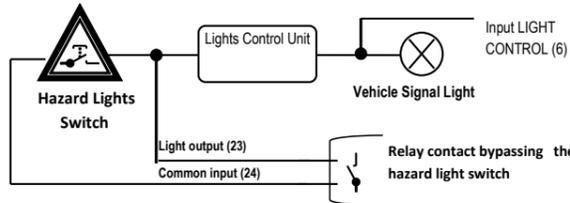

Fig. 2 Parking Lights output connected to the Hazard light switch
If connection to car's lights is too difficult or impossible, you can connect to direction lights via hazard light switch (see figure 2). Regarding to system of control hazard lights, you can choose one of two available modes: continuous or pulse.
**Black/White (+)** - input of lights control - This input is connected to the wires hazard lights or direction indicators (Fig.2). Input response to a positive voltage +12 V. Allows the actual illumination of lights in case the selected mode (continuous or pulse) and choice option 2 of feature 20.